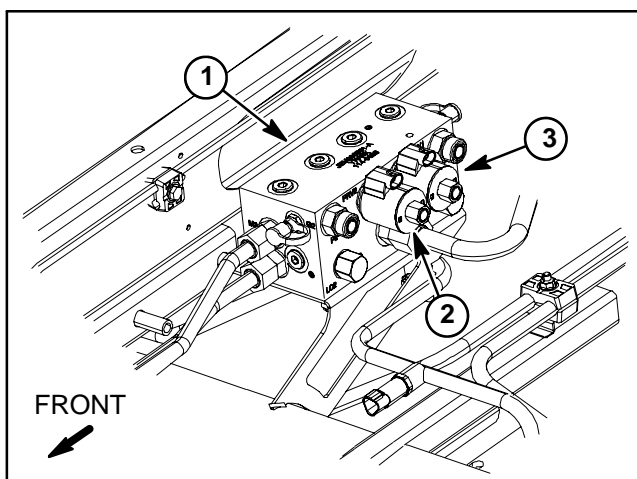
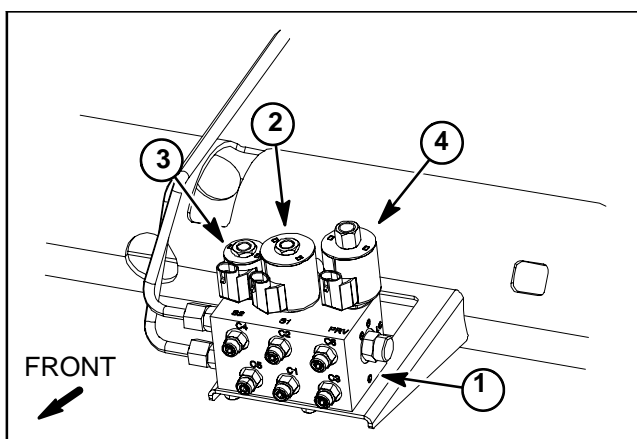

Figure 46
Figure 47
The Groundsmaster 4300-D hydraulic system uses several hydraulic solenoid valve coils for system control. The deck control manifold includes two (2) solenoid valves (Fig. 46) and the lift control manifold includes three (3) solenoid valves (Fig. 47). When the solenoid coils are energized, hydraulic valve shift occurs to control hydraulic flow. Testing of the coils can be done with the coil installed on the hydraulic valve.
3. To gain access to deck control manifold (Fig. 46), raise and prop the operator seat. Access to the lift control manifold (Fig. 47) can be obtained by removing the operator floor plate.
4. Disconnect harness electrical connector from hydraulic solenoid valve coil that is to be tested (Fig. 46 or 47).